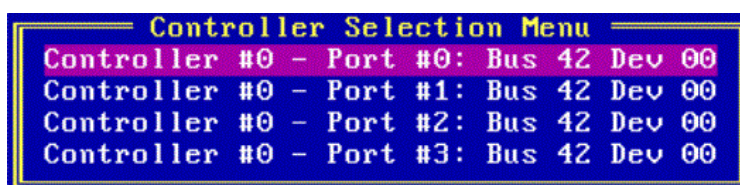
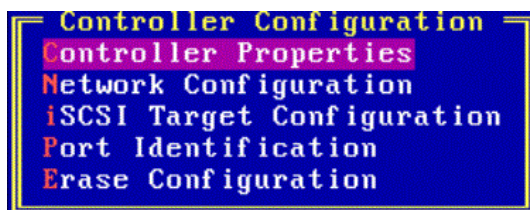

Figure 7-2 Controller Selection Menu
Figure 7-3 Controller Configuration Menu
4. Select **Controller Configuration** and press <Enter>. If you are running a single controller, the Controller Configuration menu is displayed (Figure 7-3). If you are running multiple controllers, the Controller Selection menu is displayed (Figure 7-2).